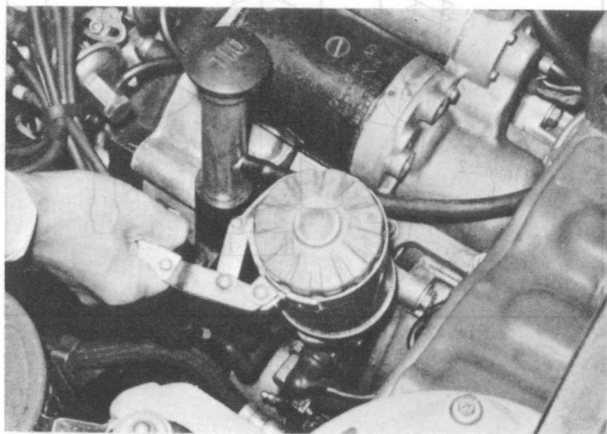

Fig. 2-10 Replacing oil filter
1. Using a oil filter wrench, remove the oil filter cartridge as shown in Fig. 2-10.